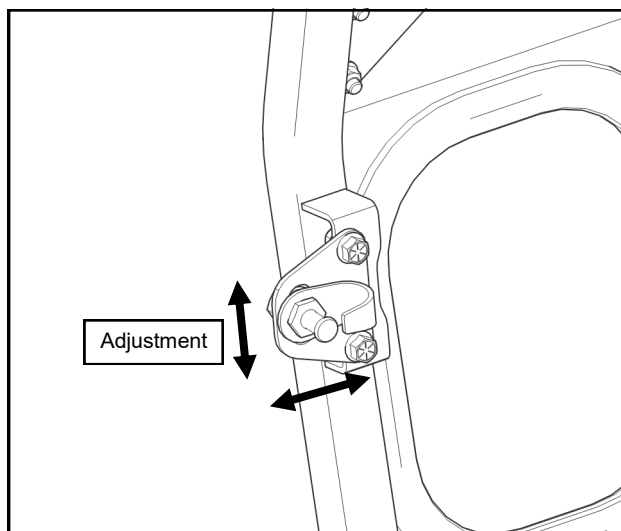

Fig. 26.3 (Striker Pin Adjustment)
- 26.4** Open the door and check for smooth operation of the latch. As noted in step 26.3, the door will likely drop a little bit at the front and the striker pin will need to be adjusted down accordingly. Also make sure the door seal is making contact along the perimeter of the door and the latch clicks twice when closing. If necessary, adjust the striker in or out to achieve this (see Figure 26.3).